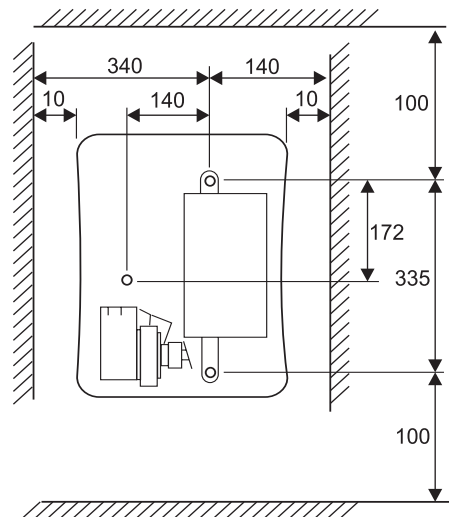

Fig. 12b
To fit the DBU on wall - see Fig. 12b
1. With the help of Fig. 12b, decide upon the position of the unit, taking into account the clearances required around the unit.